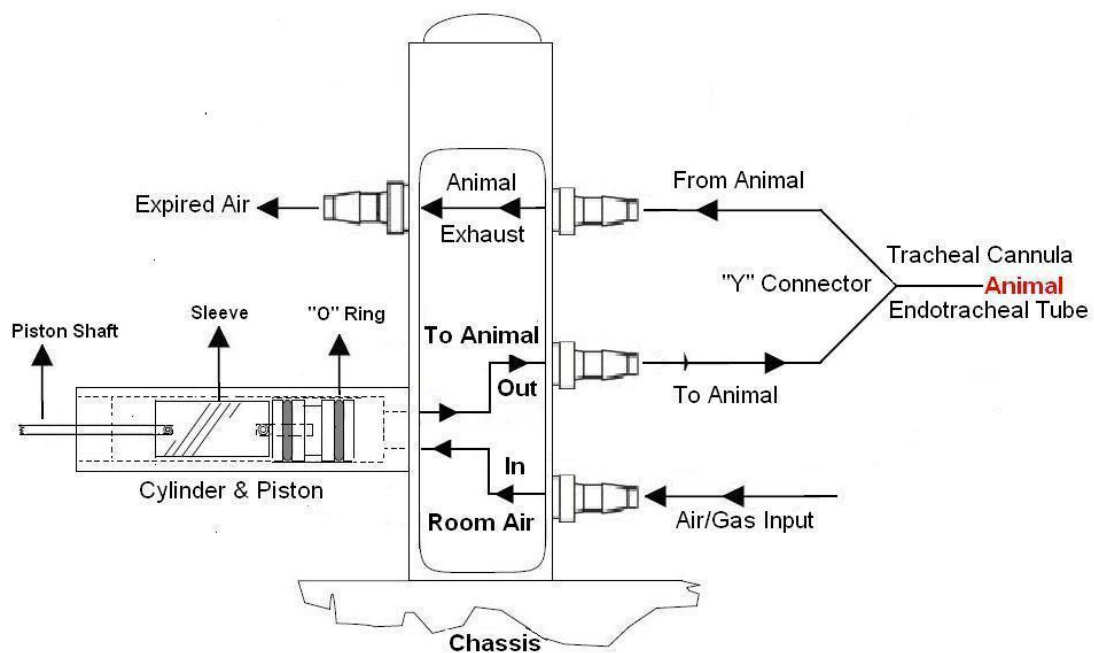

Figure 1 Tube Connection for Ventilator
5. Tubes Connection (as show in figure 1)